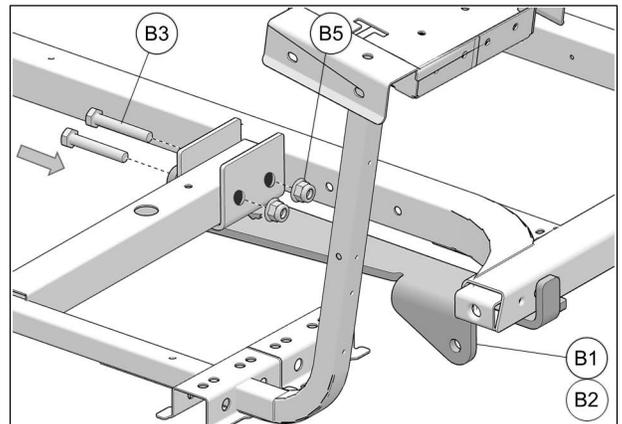

Fig. 8
6. Secure front facing part of anchor plate (**B1-B2**) to footrest sub-frame using M8 bolts (**B3**) & nuts (**B5**). Do not tighten nuts completely. See Fig. 8